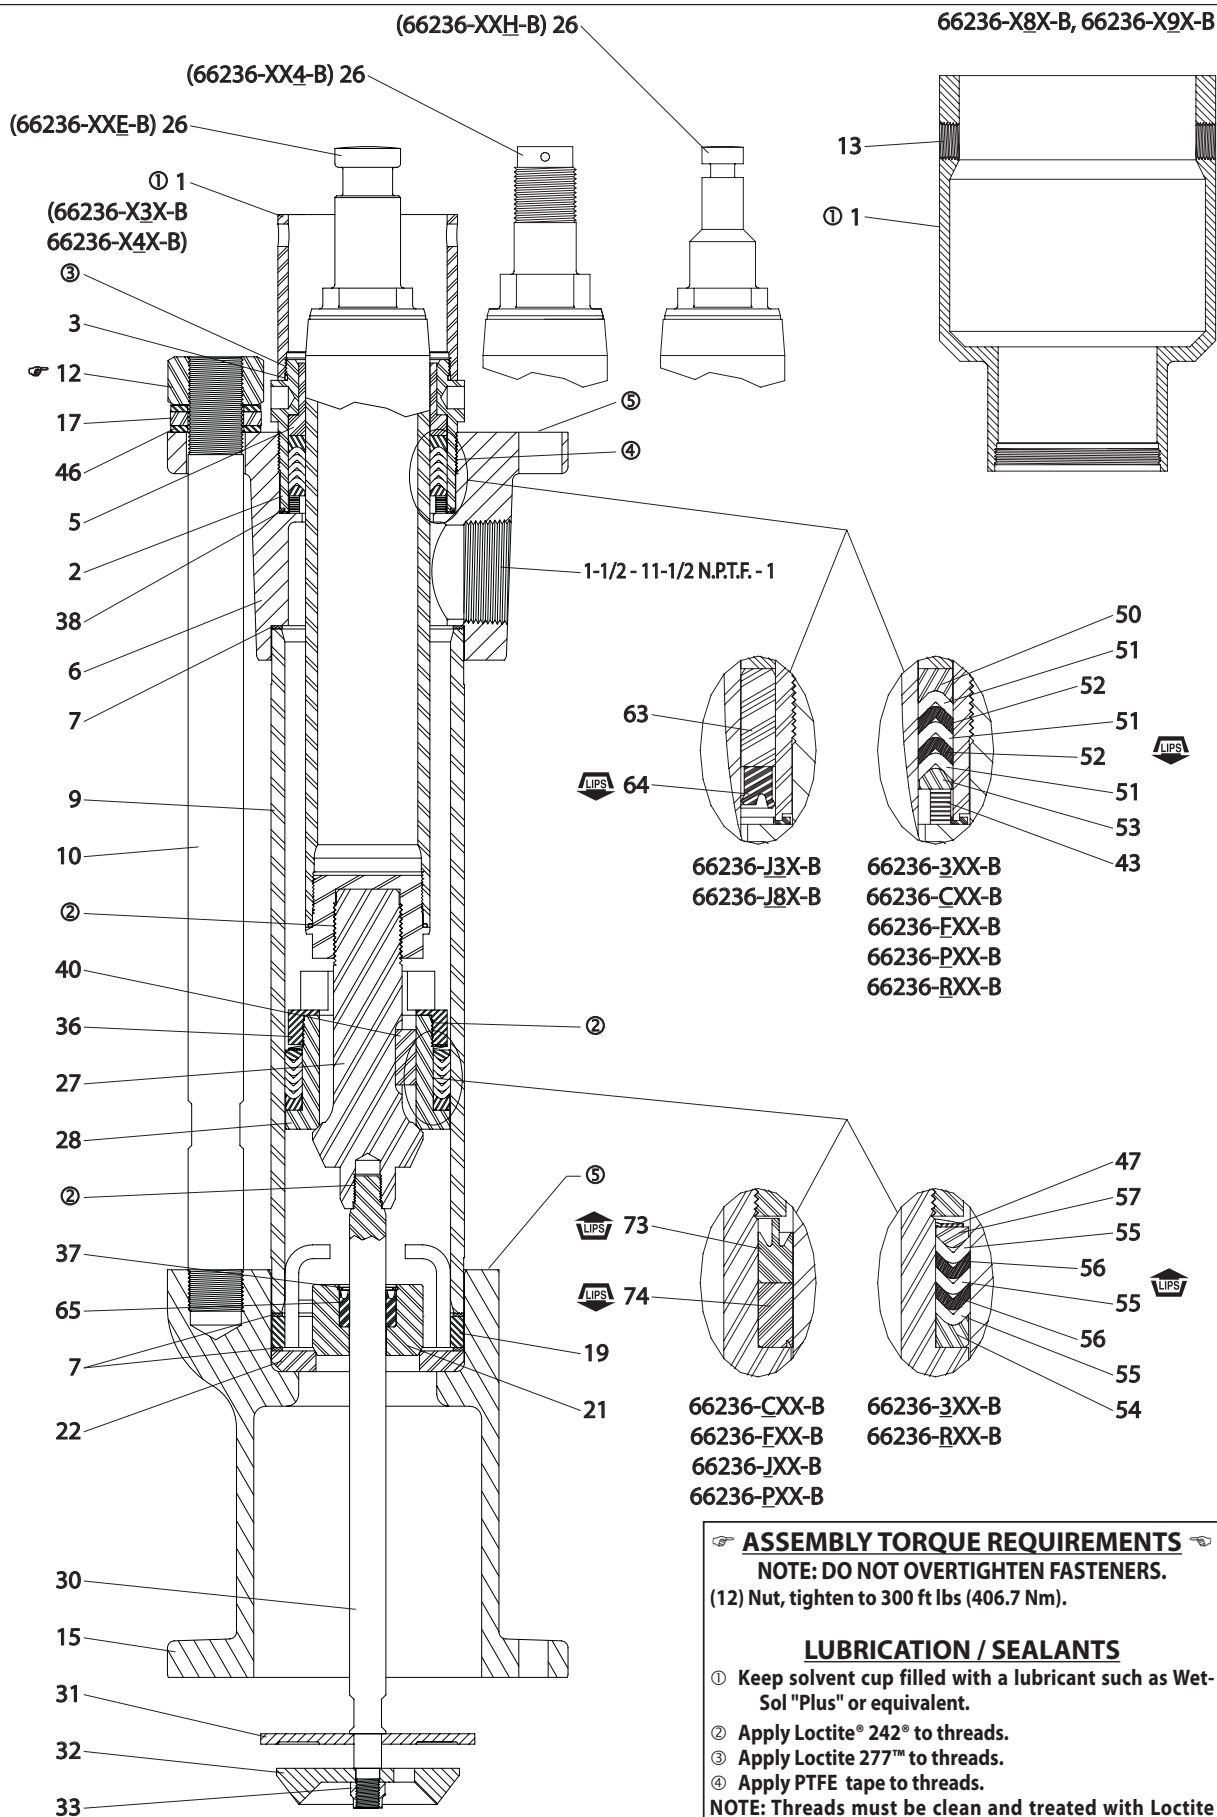

Figure 1
- Assemble the upper packing into the (6) outlet body, using the desired material (see figure 1).
- Assemble (27) valve, three (40) dowel pins, (28) valve seat, middle packings and (36) valve seat nut (see figure 1).
- Assemble the (65) "U" cup packing into the (21) foot
- valve body, securing with (37) retaining ring.
4. Place the (22) check valve seat and (7) gasket into (15) pressure chamber body.
5. Slide (21) foot valve body onto (30) primer rod. Place this assembly into (15) pressure chamber body (see figure 1).
6. Place (19) stop assembly and (7) gasket over (21) foot valve body and into position.
7. Secure the (6) outlet body in a vise. Slide the female end of (26) plunger assembly through (6) outlet body.
8. With the (6) outlet body still in a vise, apply Loctite 242 Threadlocker to threads of (27) valve and attach (27) valve to (26) plunger assembly and tighten.
9. Lubricate the middle packings and inside of the (9) tube. Place (7) gasket in the (6) outlet body. Carefully slide (9) tube over the rod assembly, seating it in (6) outlet body.
10. Secure (8) valve assembly into (6) outlet body.
12. Apply Loctite 242 to the threads of (30) primer rod (see figure 1) and thread (30) primer rod into (27) valve and tighten.
13. Slide (15) pressure chamber body over (9) tube and into position.
14. Slide (10) studs through the holes in (6) outlet body and secure to (15) pressure chamber body.
15. Assemble three (46) washers, (17) lock washers, (46) washers to (10) studs, securing with three (12) nuts. NOTE: Tighten (12) nuts to 300 ft lbs (406.7 Nm). NOTE: Be sure faces of (6) outlet body and (15) pressure chamber body are parallel after assembly.
16. To install (32) primer button, push down on (26) plunger assembly to expose (30) primer rod out the bottom of (15) pressure chamber body. Assemble (31) primer plate and (32) primer button to (30) primer rod, securing with (33) lock nut.